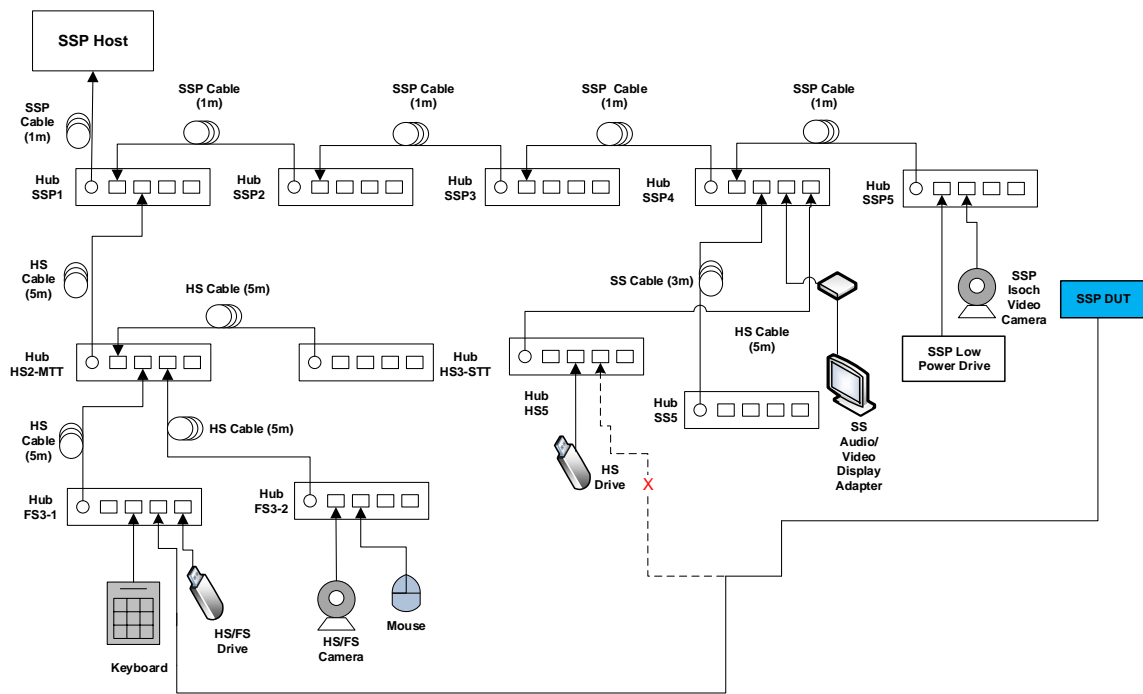
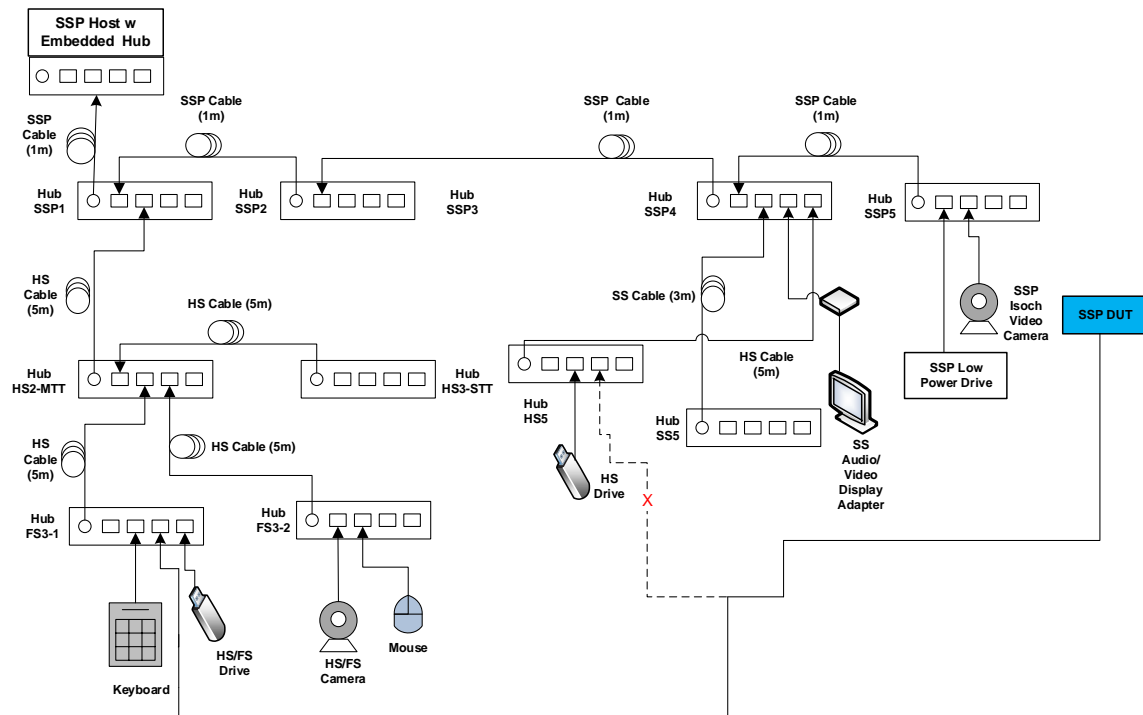

Figure 2-7: Topology Change 3 - Low/Full-Speed capable devices only
Figure 2-8: Topology Change 3 - Low/Full-Speed capable devices only (embedded hub)
- While operating the devices, attach the Device Under Test to port 3 on Hub FS3-1 as shown below in Figure 2-7 and Figure 2-8.